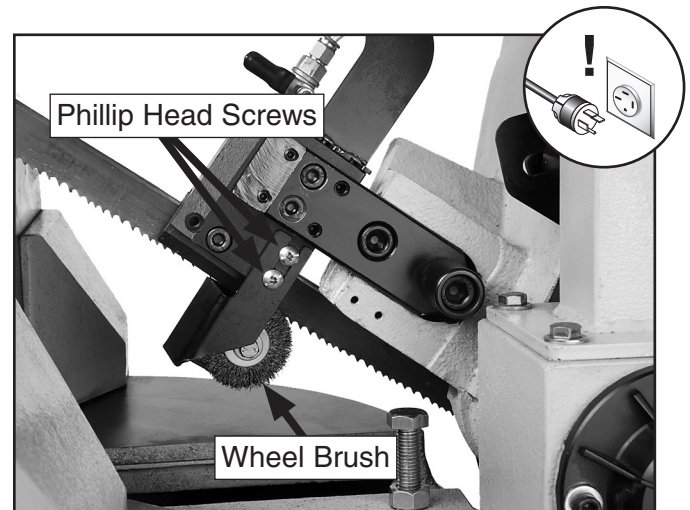

Figure 54. Wheel brush.
3. Support the wheel brush so it doesn't fall, then loosen the two Phillip head screws that secure the wheel brush (**Figure 54**).